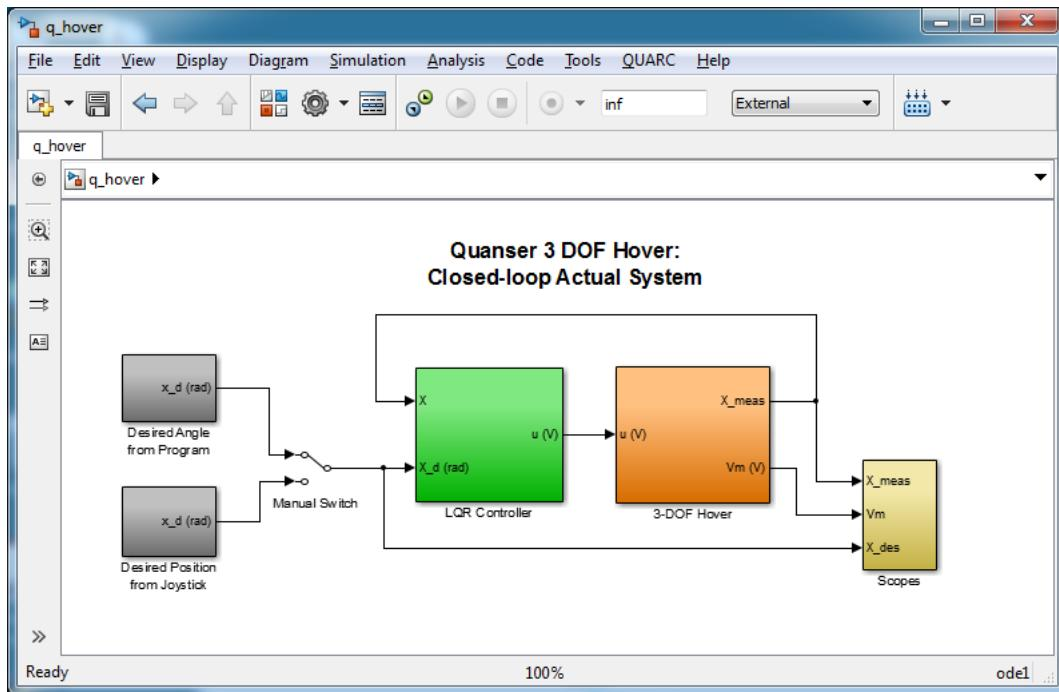

Figure 3.3: Simulink model used with QUARC® to run controller on the 3 DOF Hover.
The `q_hover` Simulink diagram shown in Figure 3.3 is used to perform the balance control on the 3 DOF Hover. The `3 DOF HOVER` subsystem contains **QUARC®** blocks that interface with the DC motor and encoders of the 3 DOF Hover system.
7. The desired angle can be also be generated using a USB joystick described in 3 DOF Hover User Manual ([4]). To use the joystick, set the Manual Switch in q\_hover, shown in Figure 3.3, to the downward position.
4. Open the `q_hover.mdl` Simulink diagram, shown in Figure 3.3.
7. The desired angle can be also be generated using a USB joystick described in 3 DOF Hover User Manual ([4]). To use the joystick, set the Manual Switch shown in Figure 3.3 to the downward positions. The rate at which the desired angle increases or decreases given a joystick position can be changed using the `K_JOYSTICK_X` and `K_JOYSTICK_Y` variables that are set in the `setup_hover.m` script file. Note that the same rate limiter parameter `CMD_RATE_LIMIT` is used for the joystick as well.